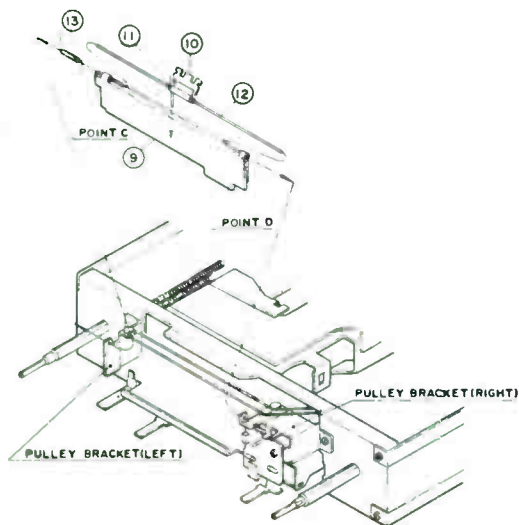

Figure 4-2
- (1) Insert the dial scale rod 12 into the assembly of the dial pointer 11 and dial pointer slider 10 (Shown in Figure 4-2).
- (2) Put the dial pointer 11 into the opening of the dial scale 9 .
- (3) Insert the dial scale rod 12 (at its left end) into the point C of the dial scale 9, and inclose it with the dial scale spring 13 . And put another end of the dial scale rod 12 into the point D of the dial scale 9.
- (4) After checking that the jobs in the above three steps have been completely done, insert one end of the dial scale rod